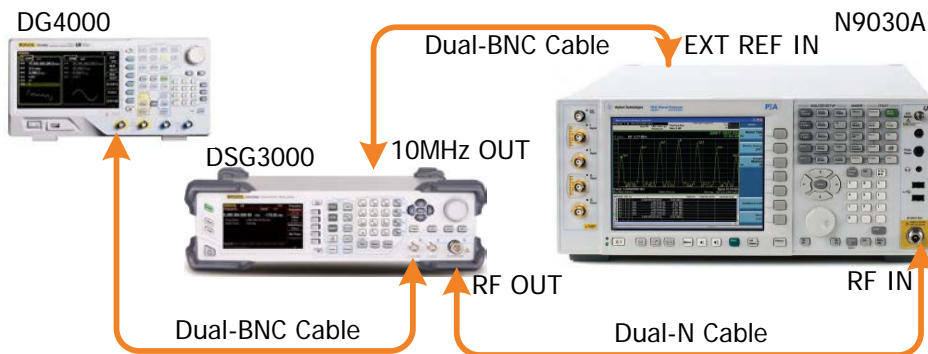

Figure 2-10 ØM External Modulation Test Connection Diagram
- 1. Synchronize the DSG3000 and signal analyzer. Connect the RF output terminal of the DSG3000 with the RF input terminal of the signal analyzer. Connect the signal output terminal (e.g. CH1 output) of the function/arbitrary waveform generator with the external modulation input terminal of the DSG3000 as shown in Figure 2-10.